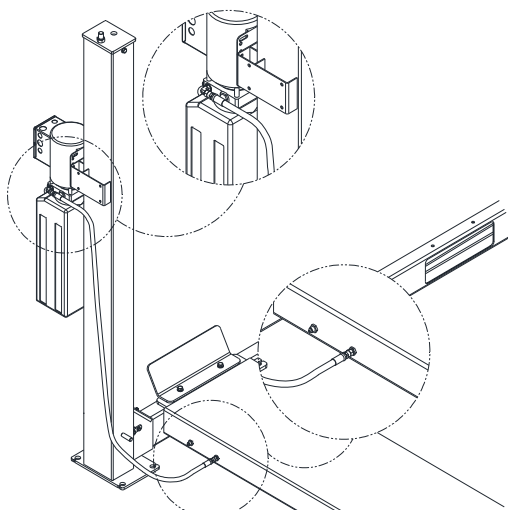

Fig 16 – Supply Line, Front
- 32) For installs on the front of the column (**Fig 16**), rout the power unit supply line to the bulkhead shown below. Attach the 90 degree fitting at a slight angle downward and secure the hose to the fitting.